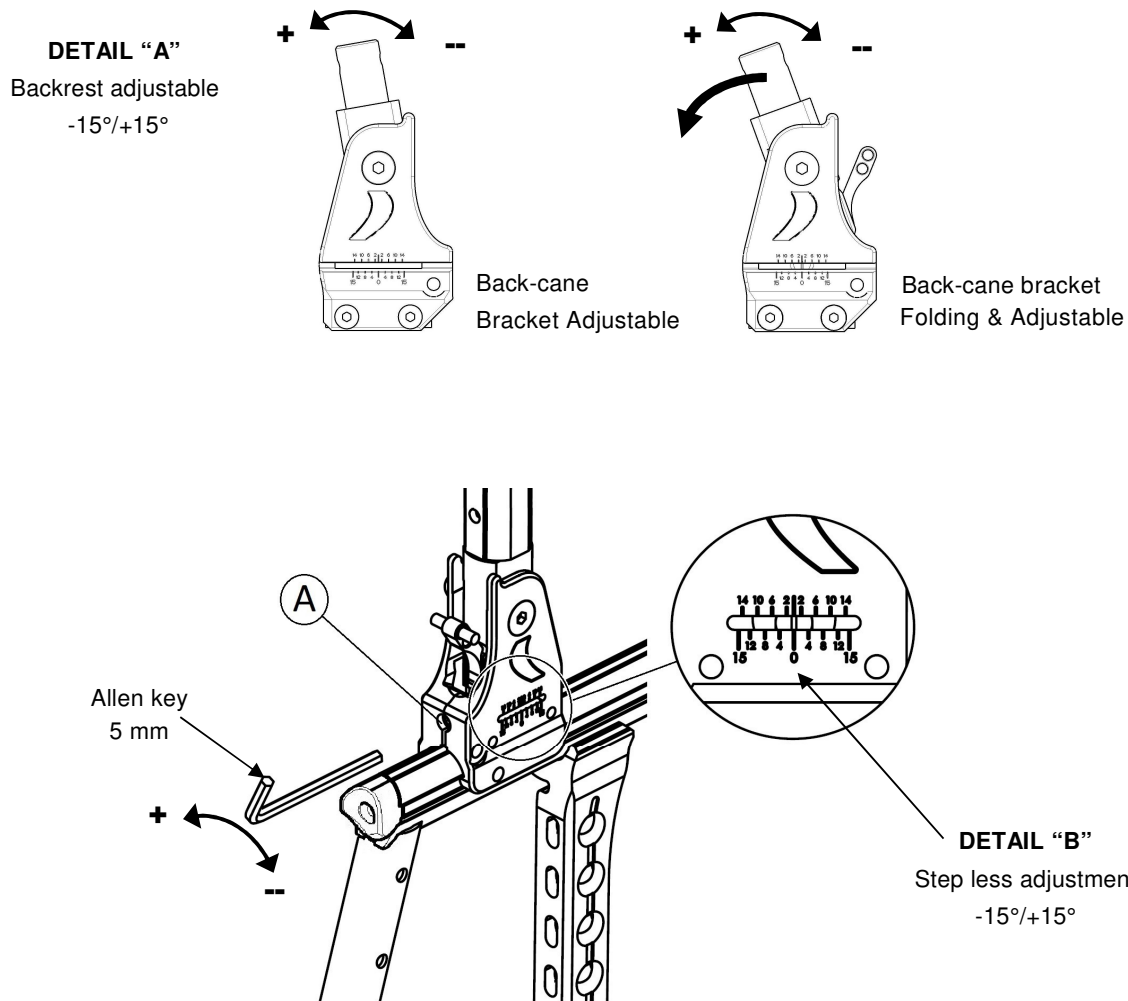

FIGURE 4.7 Adjusting the Backrest Angle
NOTE: For this procedure, refer to FIGURE 4.7.
1. Adjust the back angle thanks to the adjustable screw (A).
2. Turn Allen key (5 mm) clockwise to obtain a negative angle.
3. Alternatively, turn Allen key (5 mm) under clockwise to obtain a positive angle.
4. Ensure both adjustment to the desired angle are equal on each side of the Back-Cane Bracket. Refer to Detail "B" of FIGURE 4.7.